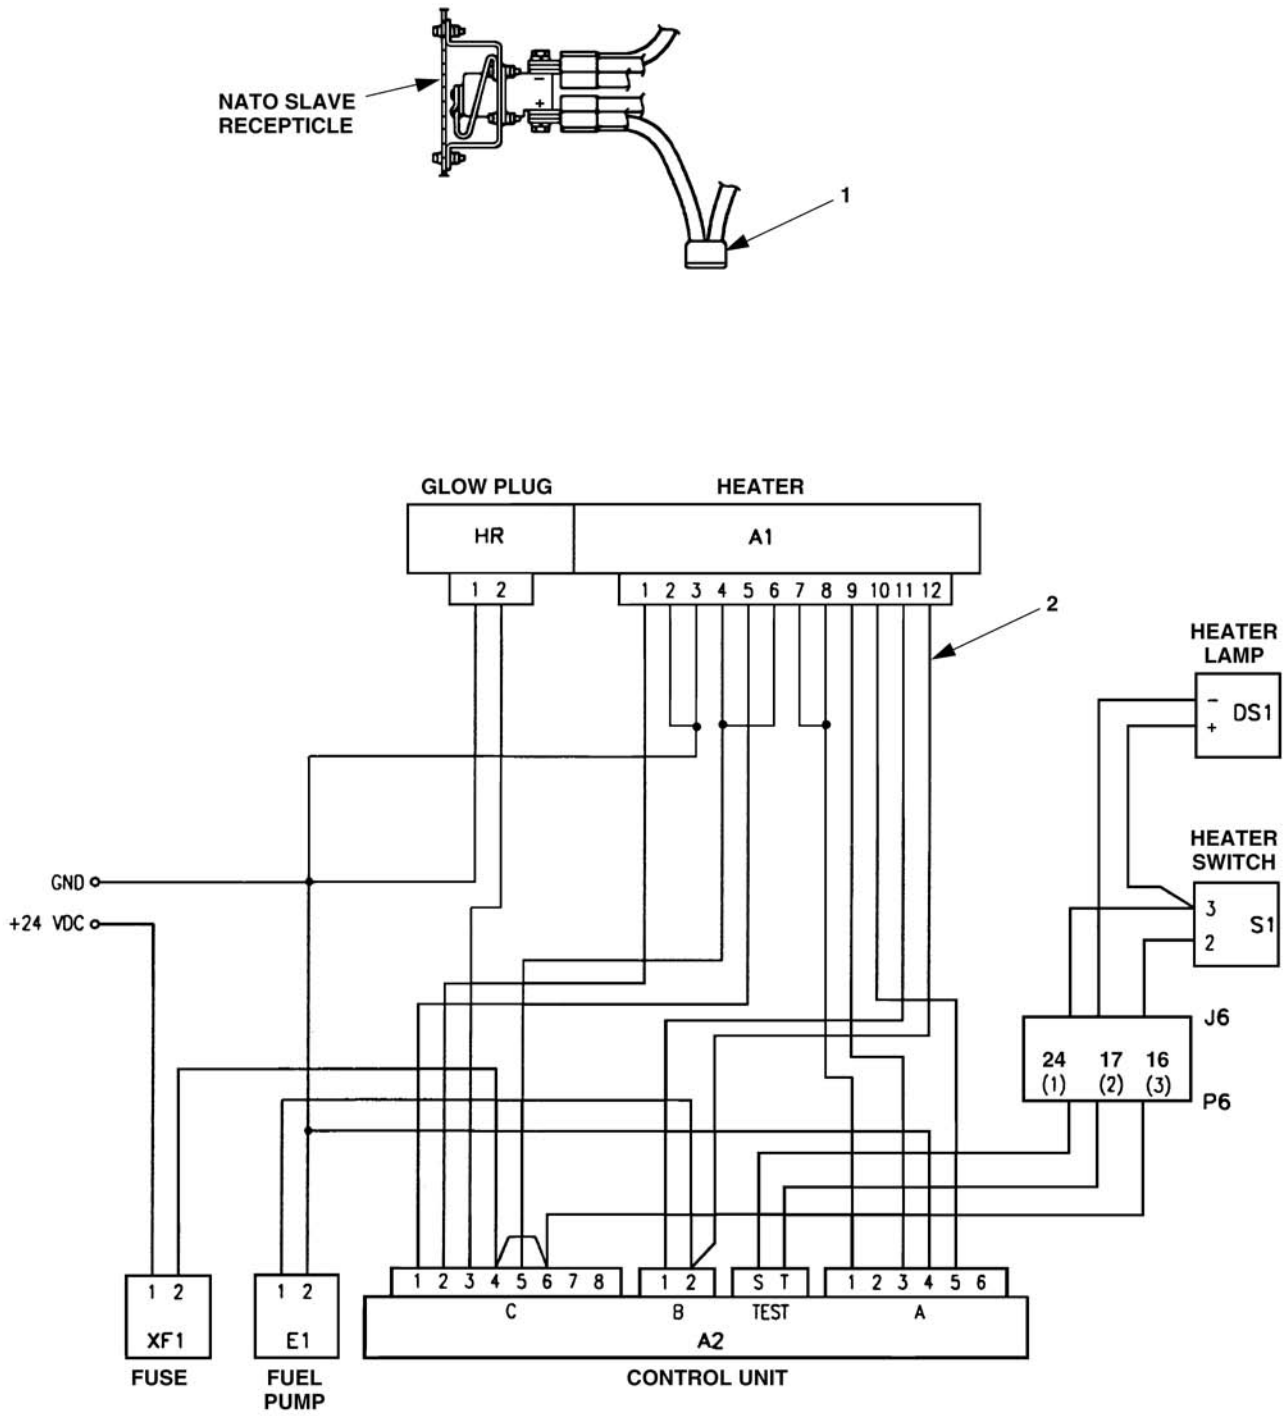
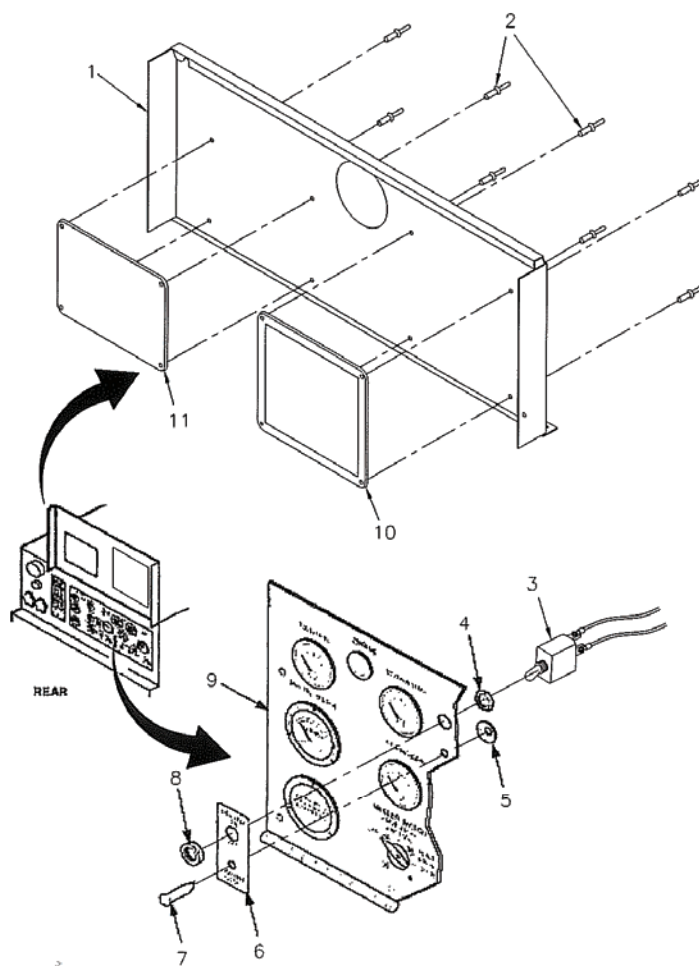

Figure 6-9. Fuse and Wiring Harness.
Figure 6-10. Cover and Instrument Panel
- r. Locate wiring harness and remove and discard pins from P6 (16, 17, and 24), Figure 6-9.
- s. Install wiring harness (2, Figure 6-9) in accordance with wiring diagram (see Figure 6-9). Secure harness with tie wraps contained in kit.
- v. Open control panel access door (1, Figure 6-10).
- w. Locate operating instruction plate (11) and heater function codes plate (10), and match drill 3/16" holes in control panel access door (1). Plates shall be readable when the door is open.
- x. Install rivets (2) Figure 6-10. Rivet head shall be to the outside of the unit.
- y. Locate heater switch label (6) Figure 6-10 and drill a 5/16" hole for the light and a 1/2" hole for the switch, in control panel (9).
- z. Install heater switch label (6), indicator light (7), and toggle switch (3).
- aa. Remove and maintain (for removal purposes) pins from J6-16, 17, and 24 (see Figure 6-9).
- ab. Install electrical leads in accordance with wiring diagram (see Figure 6-9). Secure leads with tie wraps contained in kit.
- aj. With engine running, start heater. Check the indicator light (3, Figure 6-10) per the heater function codes plate (10) for heater operation.
Code Light Pulses. The indicator light near the heater ON-OFF switch will blink in different sequences of long and short pulses to indicate malfunctions. A plate (Figure 6-11) mounted on the generator control panel access door (Figure 6-10) lists the malfunctions and shows each sequence of pulses for diagnostic faults given. Figure 6-12 provides an example of the Symptom Index Troubleshooting Table found in Section XI of this Chapter.
See Figure 6-9 for all Wiring Harness troubleshooting.
- (1) If voltage is less than 21 VDC, check electrolyte levels as per paragraph 2-11. Charge batteries as necessary.
- (2) If voltage is greater than 30 VDC, troubleshoot 25A main fuse/s as per wiring diagram Figure 6-9.
- (3) If voltage is within normal range between 21 and 30 VDC, replace control unit per paragraph 6-12.